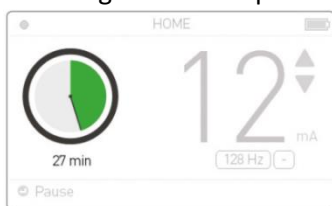
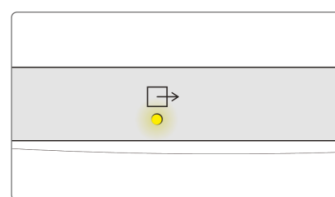

Figure 27. Flashing circle in display
Figure 28. LED indicator
6. The flashing circle (see *Figure 27*) in the display and the yellow LED light on the front panel (see *Figure 28*) indicate that current is being sent to the patient.